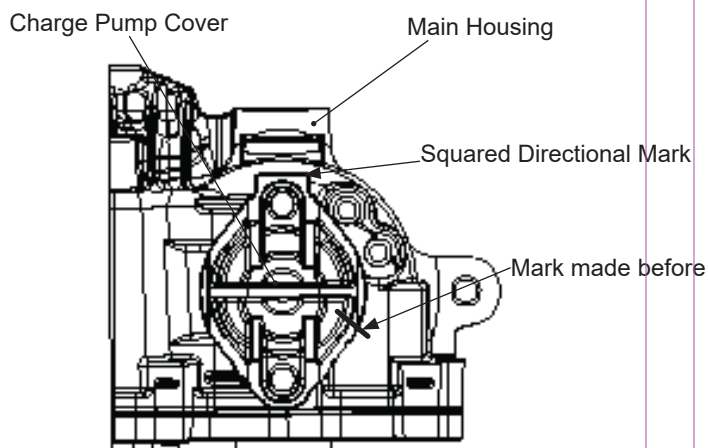

Figure 23, Charge Pump Cover Orientation
1. **Mark the orientation of the charge pump cover relative to the main housing, prior to removal. Refer to figure 23.**
2. Remove the hex head screws (134), charge pump cover (133), gerotor assembly (131), and the O-ring (132). Remove the connecting tubes (130) and lip seal (157) at this point – *only if the center section will be removed*. A pick type tool can be used to remove the connection tubes and seal.